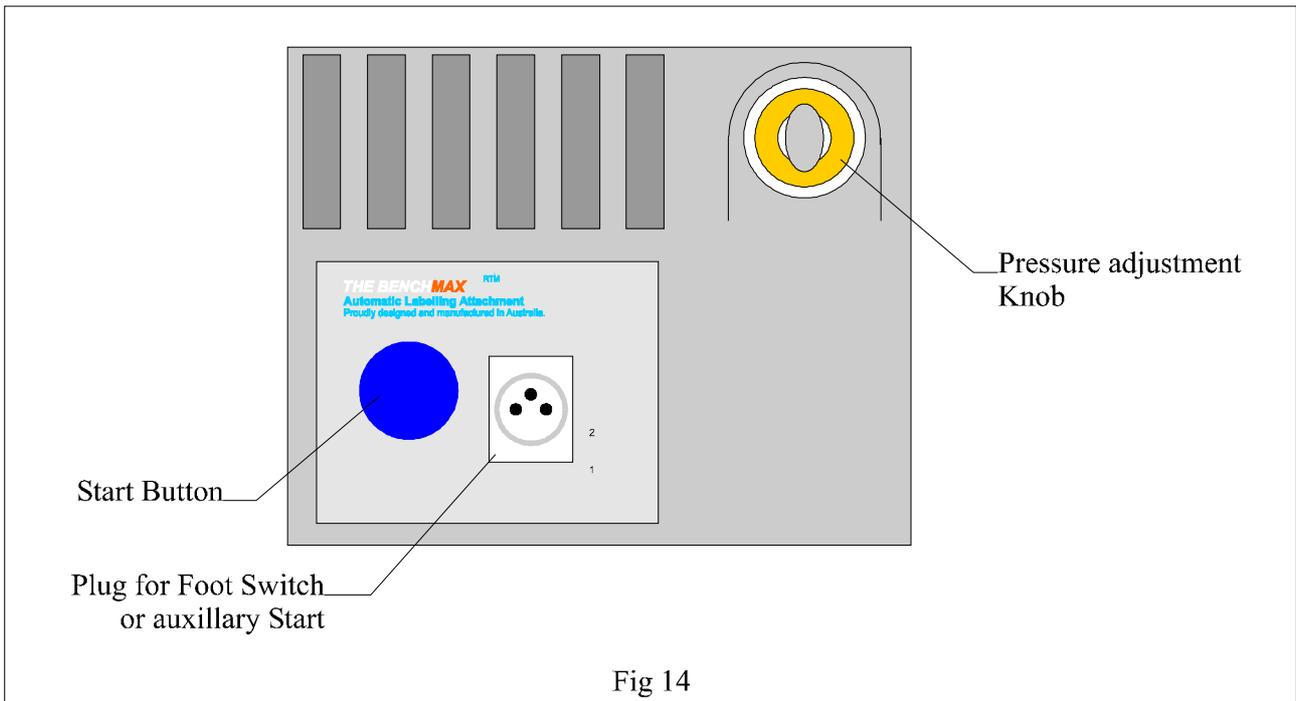

Fig 14
- Adjust the Pressure Knob [fig 14] as desired. Note Over adjusting of the Handle Roller [9] will not allow the Automatic Label Attachment to complete its cycle. If this occurs undo Handle Roller adjusting Knob 12 [fig 4]